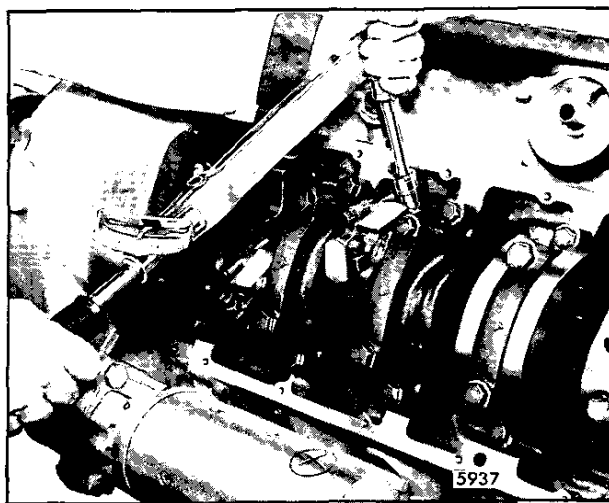

Fig. 3 - Torquing Connecting Rod Cap Bolts
13. Thread the connecting rod cap bolts in the rod. Tighten the bolts to 80-95 Nm (59-70 lb-ft) torque Fig. 3.